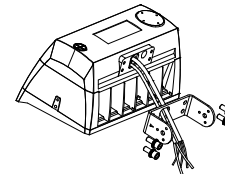

Figure 3
STEP 1: Put the input wire of the light across the bracket (FIGURE 3)